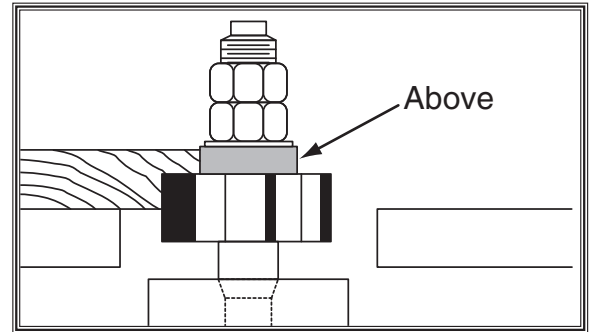

Figure 22. Rub collar mounted above cutter.
- **ABOVE THE CUTTER** as shown in **Figure 22**. This setup is the safest and produces the most consistent results.